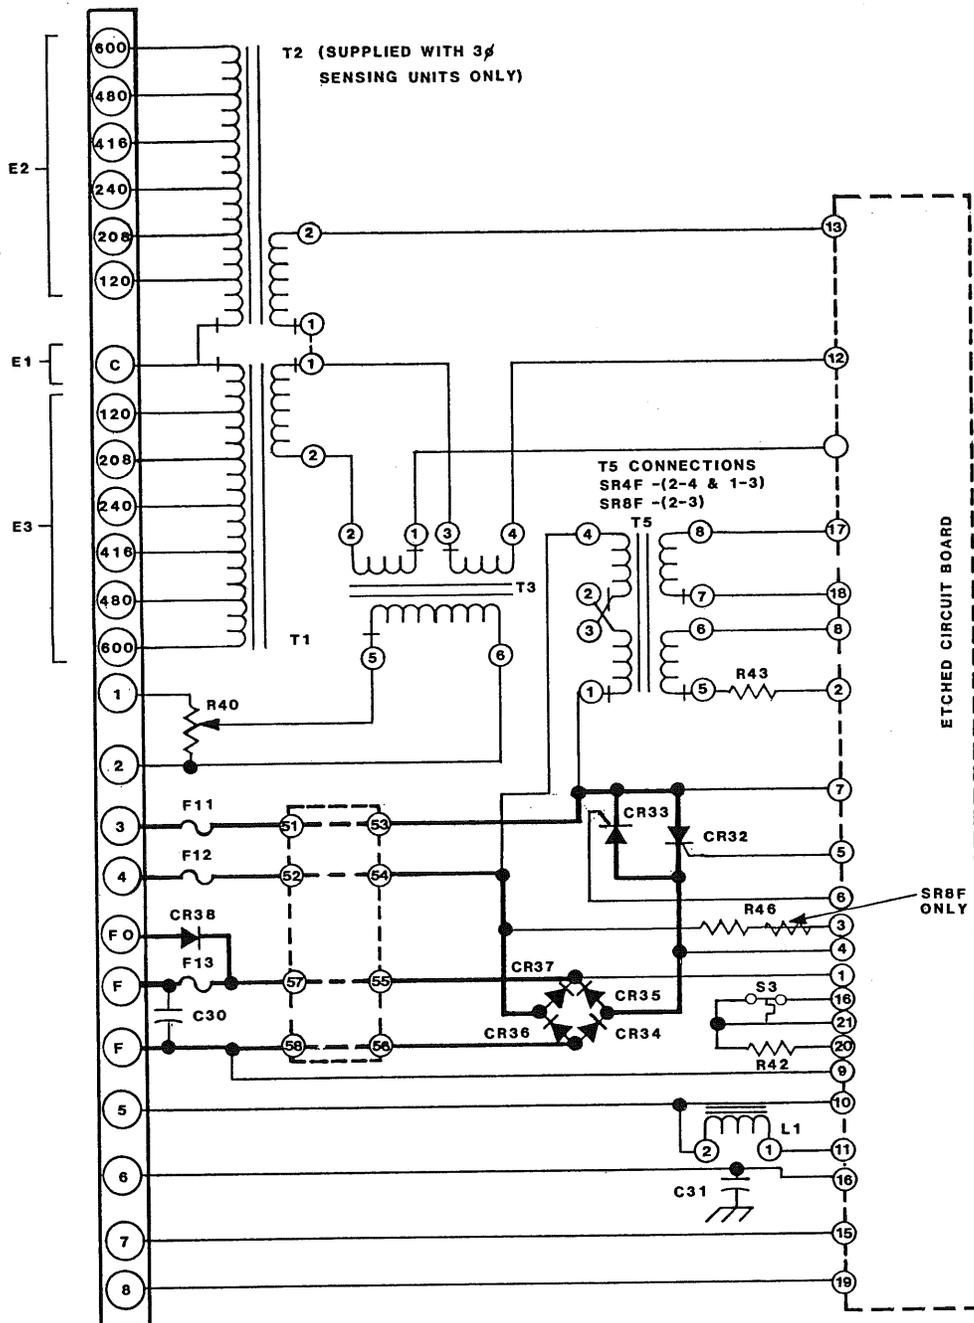

Figure 7-2. Schematic Diagram
- Figure 7-2. Schematic Diagram